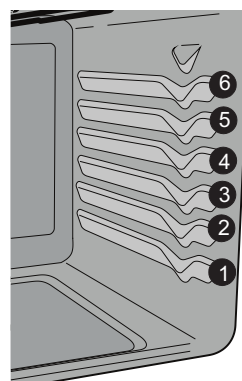

Figure 22: Rack positions
- For best results when baking cakes using two oven racks, place racks in positions 3 and 5 (See Figure 22).